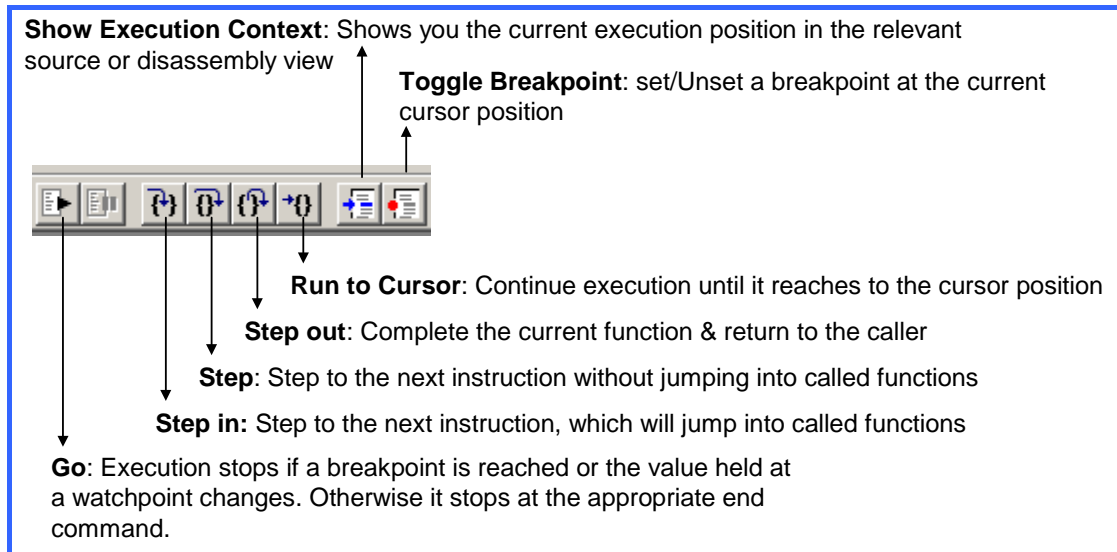

Figure 29. The Execute menu.
5. Use **Execute Step** (or F10) or the button shown in Figure 29 to step through the application. The disassembled code is displayed and a pointer